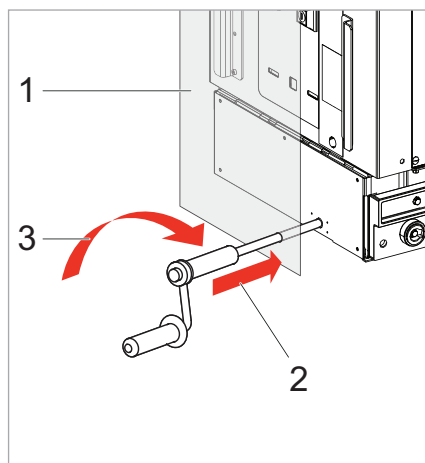
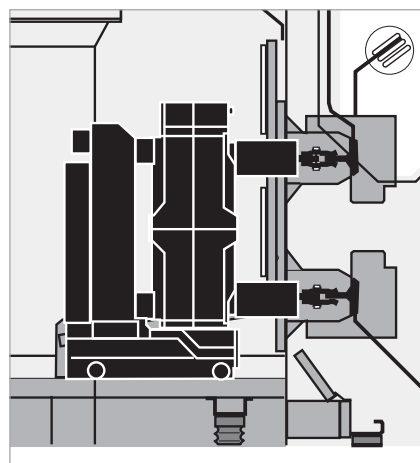

Fig. 33
Fig. 34
1. Open cover in panel (Fig. 33, item 1) and insert crank (2).
2. Turn crank clockwise (3) until the truck has been racked in. Remove crank.
3. Check position of the truck (Fig. 34) through the inspection port.